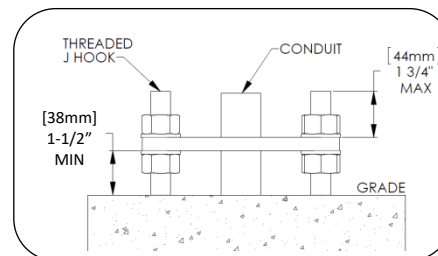

Fig. 2 – Anchor install detail
2. Install anchor hooks, hex nuts, washers and wooden template as shown in Fig 2. Level template in all directions. **Note:** template thickness is less than base plate thickness. Dimensions given account for the difference.